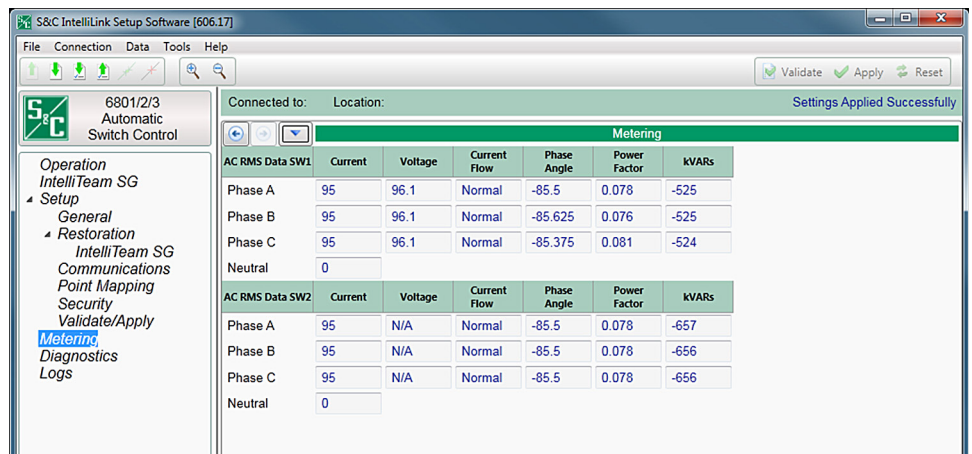

Figure 5. Operation-Main screen for a 6801 Switch Control.
1. Measure the present load current with the control on the *Metering* screen. See Figure 5.